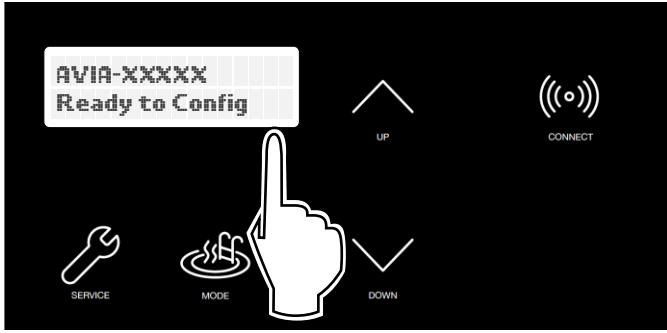

Figure 80. Wi-Fi Ready to Configure and HOTSPOT Identifier
- The CONNECT menu should display the Wi-Fi State, indicating "Ready to Config" wireless connection, and also the HOTSPOT identifier. See **Figure 80**.